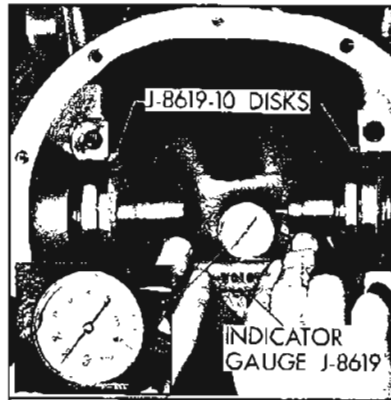

Figure 6-22—Checking Pinion Depth
8. Make certain differential bearing support bores are free of burrs. Install indicator gauge in carrier so that small diameter outer portion of disks rest in differential bearing pedestal support bores. Spring-loaded center of gauge must be located in centering hole of gauge plate, and ball-tipped contact button of dial indicator must be positioned to bear against outer edge of gauge plate top surface. See Figure 6-22.
10. If zero setting is still correct, remove gauging set up and both bearings from the carrier. Then subtract reading recorded in previous step from 100. For example, a typical reading of 70 should be subtracted from 100; this answer (30) indicates the thickness of the shims to be selected as further qualified in Step 12 following.